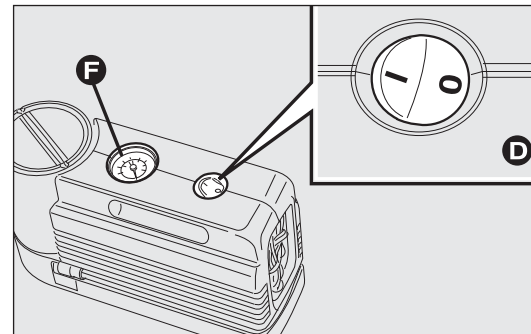
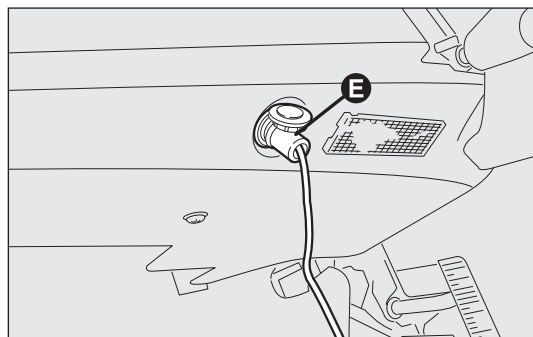

fig. 159
fig. 160
- make sure that switch D-fig. 159 for the compressor is in position 0 (off), start the engine, insert pin E-fig. 160 into the nearest socket and switch on the compressor by moving switch D-fig. 159 to position I (on) Inflate the tyre to the pressure specified in the "Tyre pressure" paragraph in the "Technical specifications" section.
For a more accurate reading, check pressure gauge F-fig. 159 with the compressor off;